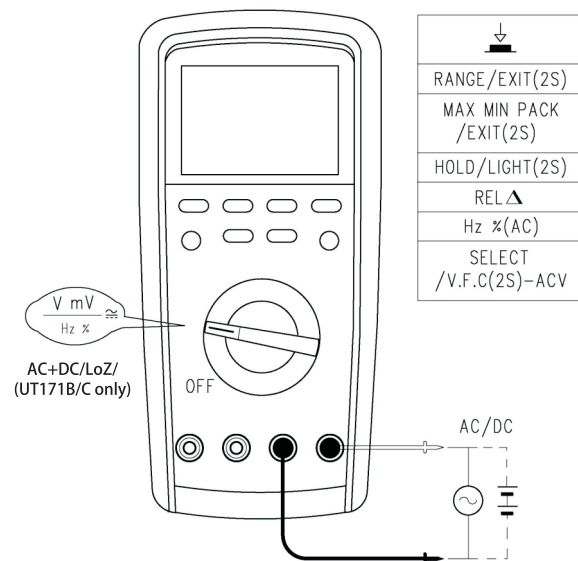

Figure 3
1) Measuring AC/DC voltage (see Figure 3)